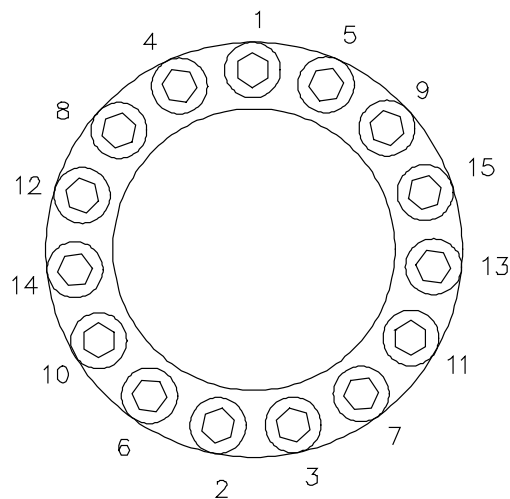

Fig 47 Retainer Tightening Sequence
- Check rotor mesh clearance against Clearance Chart, refer to section 8.1. Adjustment of mesh clearance is made by rotating the shafts (5.01 and 5.02). Having achieved optimum mesh clearance, partially tighten visible screws in retainer (5.16), to clamp gear in place. Remove tool and associated studs and nuts. Fully tighten screws in retainer (5.16) to correct torque, refer to section 8.2, taking note of typical tightening sequence, see Fig 47.
- Moderately tighten visible screws in retainer (2.05) in clamped rotor to lock rotor in position. Remove tool and associated stud and nut, tighten fully screws in retainer (2.05) to correct torque, refer to section 8.2, taking note of typical tightening sequence, see Fig 47.